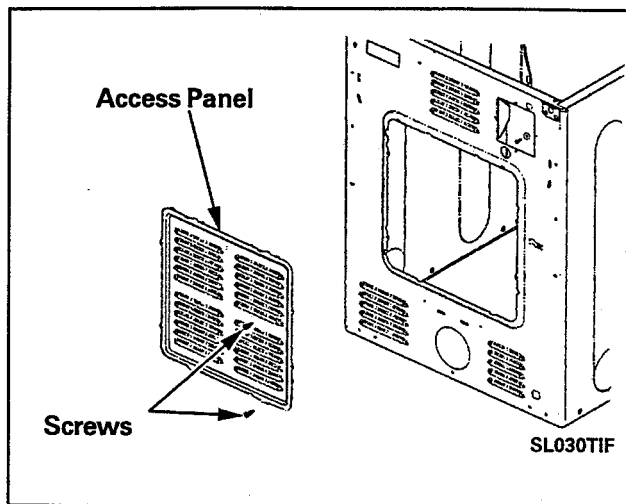

Figure 4-20
1. Remove the four screws surrounding the access panel (Figure 4-20).